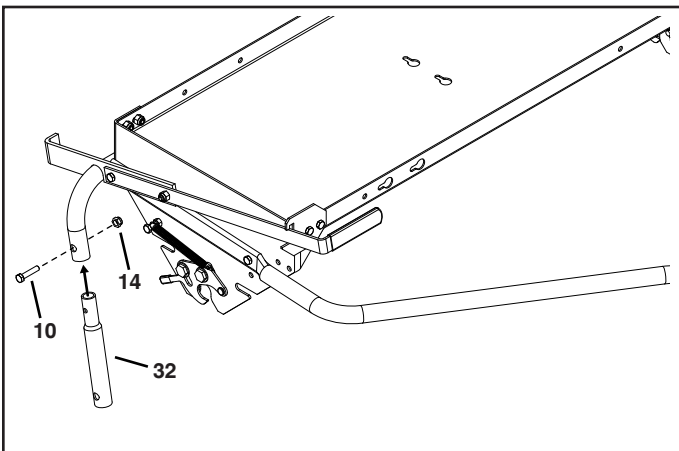

FIGURE 6
13. Attach the lower lift tubes (32) to the lift tube assembly using two 5/16 x 1-1/2" hex bolts (10) and 5/16" nylock nuts (14). See figure 6. **Tighten**.